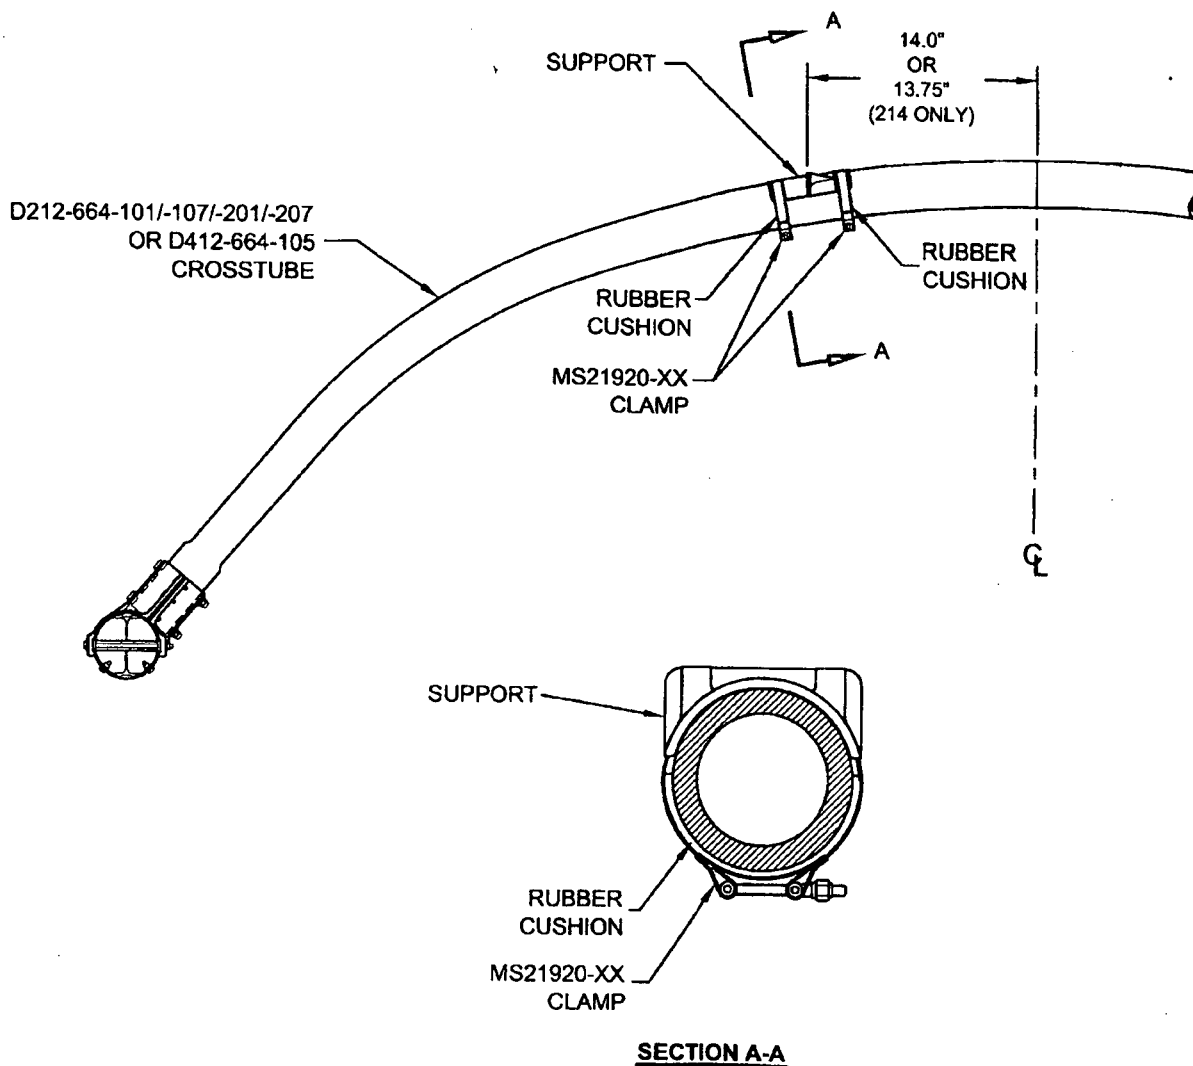

FIGURE 1: SUPPORT INSTALLATION
For the crosstubes listed above, section 32.4 of ICA-D212-664 is amended as follows. Use Figure 1 of this service instruction and Figures 32-2 to 32-9 of ICA-D212-664 for further reference. For crosstubes of an earlier change number, it is recommended that if the supports are removed, the supports should be reinstalled using the procedure listed below.
- 32.4.1 Locate the area on the crosstube for installation of support (see Figure 1 of this service instruction). For D212-664-101/-107/-201/-207 and D412-664-105 crosstubes, the outward face of the support tabs should be 14.0" (355mm) from the crosstube center for 204/205/210/412/UH-1 aircraft. For installation on 214B/B-1 aircraft, the outward face of the support tabs should be 13.75" (349mm). Ensure paint finish of crosstube is intact; touch up as required per Chapter 5 (5.3.9) of ICA-D212-664.
- 32.4.5 Apply a 0.04" to 0.07" thick layer of Proseal 890 Class B or AMS-S-8802 Class B sealant underneath applicable support and install support as shown in Figure 1 of this service instruction.
- 32.4.6 Install the clamps opposite to crosstube support as shown in section A-A of Figure 1. Install rubber cushions underneath each clamp around the bottom circumference of the crosstube up to the crosstube centerline. Torque clamps 80-100 in-lb (9.0-11.3 Nm). It is acceptable to use smaller or larger sized MS21920-XX clamps than those listed in ICA-D212-664, ensure that after torquing the clamps per this instruction, the nuts are in safety but not bottomed out.